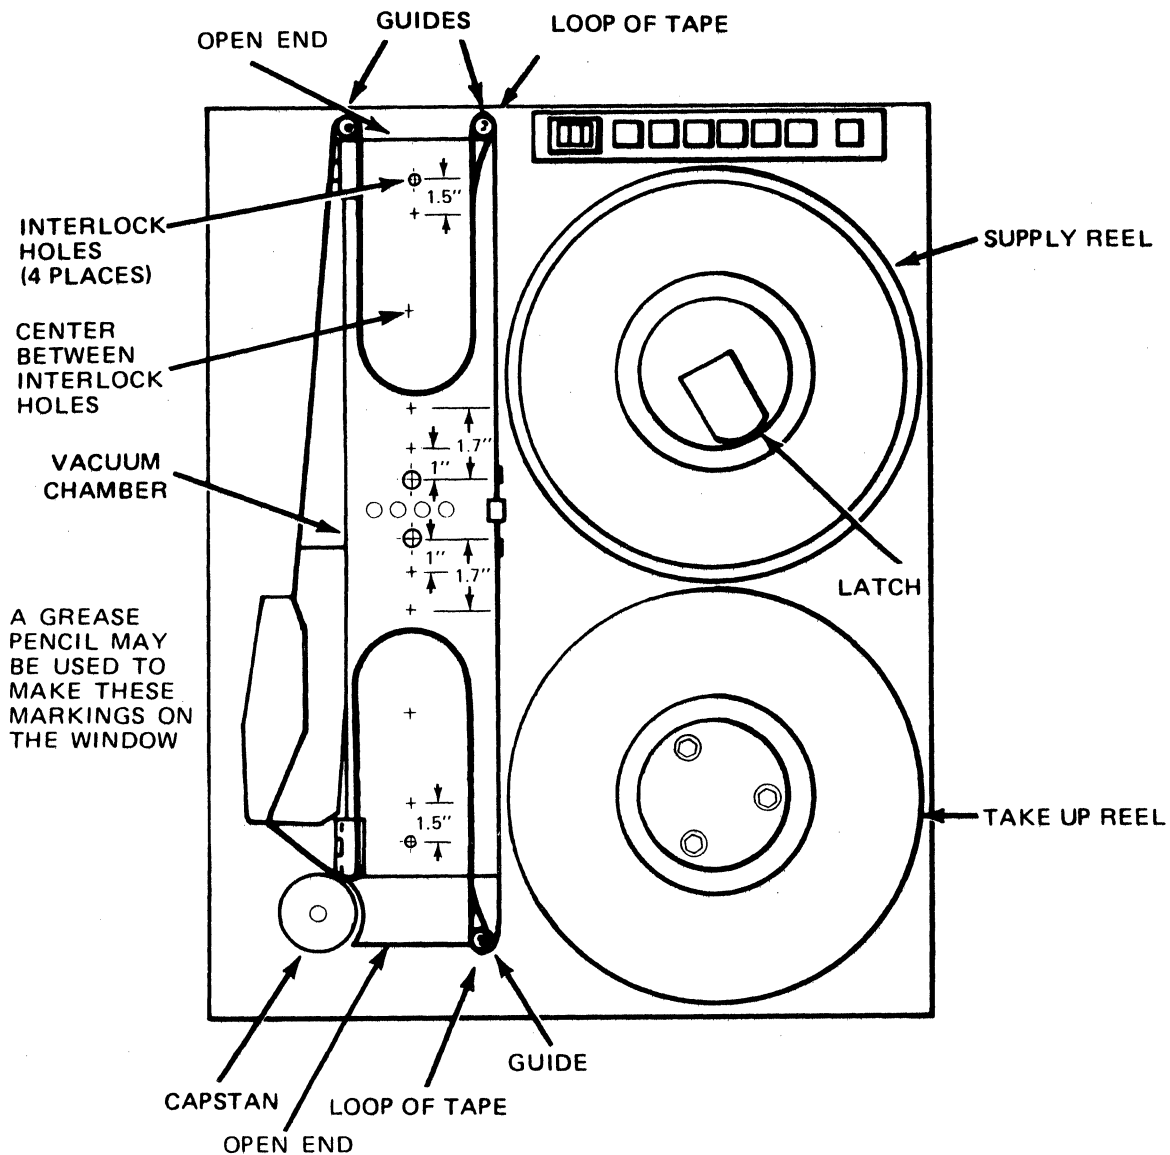

Figure 5-3. Tape Loop for Vacuum Column Servo Adjustment
- b. Remove the head covers. Load a loop of tape in the vacuum chamber as shown in figure 5-3.
- c. Position tape loop so that tape intersects a point $1/4$ inch from vacuum column wall and half the distance between interlock holes (figure 5-3). Adjust potentiometer R6006 for indication of zero volts ($\pm 10\text{mV}$) on digital multimeter.
- c. Position the tape loops so that tape intersects a point half the distance between interlock holes (figure 5-3). Adjust potentiometer R7006 for an indication of zero volts ($\pm 10\text{mV}$) on the digital multimeter.